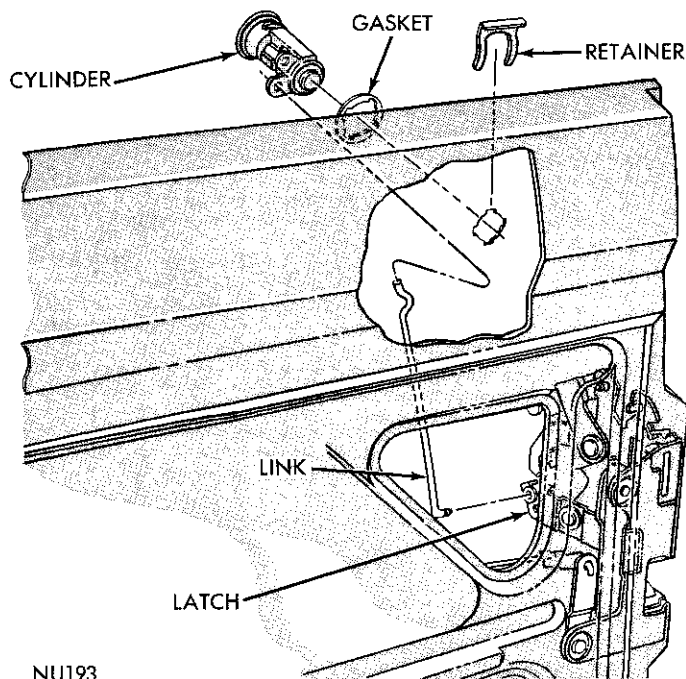

Fig. 26—Lock Cylinder
(1) With window in up position, disconnect cylinder link (Fig. 26) from clip on lock lever and from cylinder.
(2) Remove retainer from cylinder body and cylinder from door.